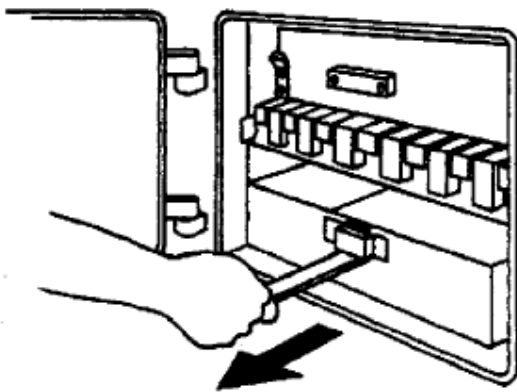

Fig. 9
- e. Remove ashpan, empty and replace (Fig. 9).
- e. Remove ashpan and empty (Fig. 9).
Open the ashpit door to give access to the ashpan which must be emptied regularly (See Fig. 9).